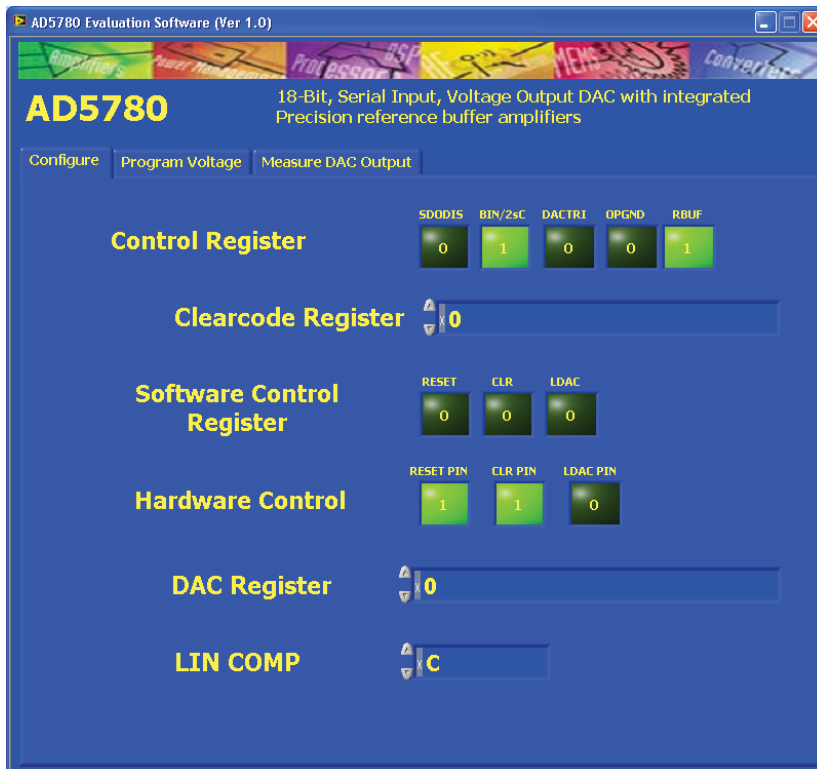

Figure 3. Main Window
1. From the **Start** menu, select **Analog Devices – AD5780 > AD5780 Evaluation Software**. The main window of the software then displays (see Figure 3).